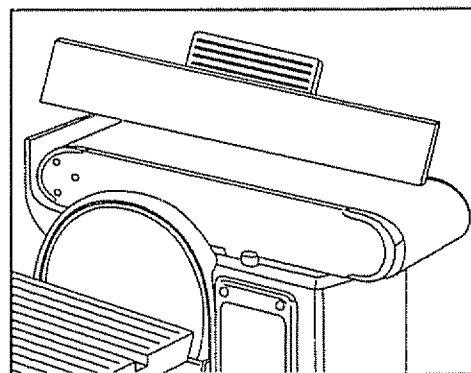

Fig. 21
■ Edge sanding of long workpieces (see figure 21)